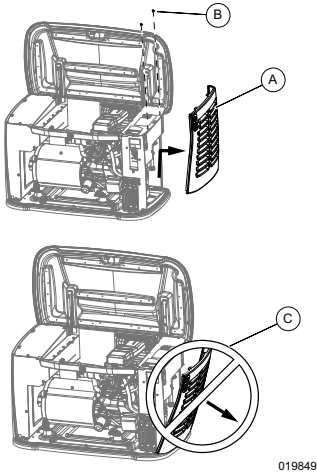

Figure 2-5. Intake Side Panel Removal
See Figure 2-5. The intake side panel (A) must be removed to access battery compartment, dual shutoff valve, and sediment trap.